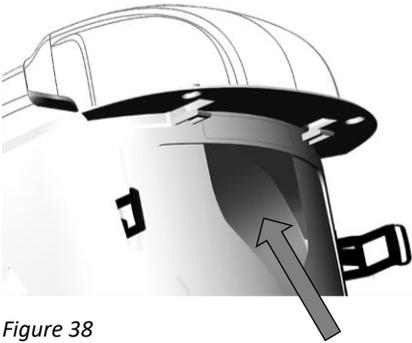

Figure 38
**Do not allow any dirt or elements, which may obstruct the air flow to enter the air inlet. (Figure 38)**